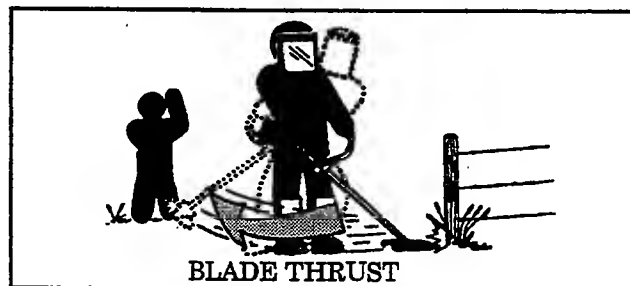

Figure 21
- 1. WHAT CAUSES BLADE THRUST** *Blade Thrust* can occur when the spinning blade contacts an object that it does not cut. This contact causes the blade to stop for an instant and then suddenly move or "thrust" away from the object that was hit. The "thrusting" reaction can be violent enough to cause the operator to be propelled in any direction and lose control of the unit. The uncontrolled unit can cause serious injury if the blade contacts the operator or others. Figure 21.